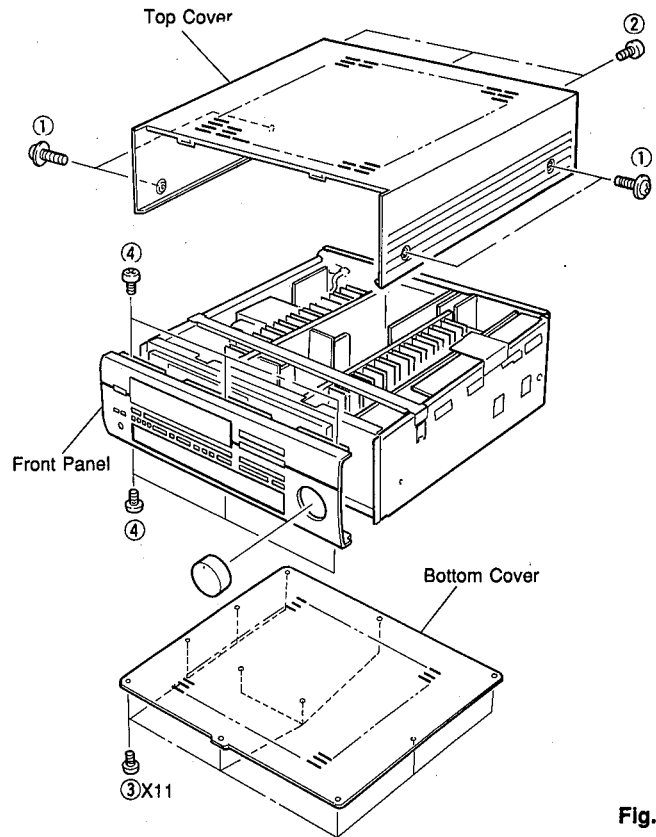

Fig. 1
a. Remove 4 screws (①) and 3 screws (②) in Fig. 1.
a. Remove 11 screws (③) in Fig. 1.
b. Remove 6 screws (④) in Fig. 1.